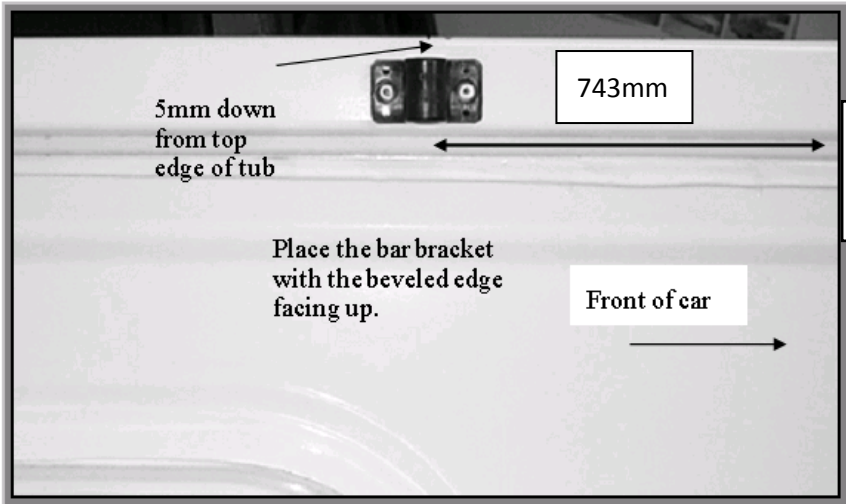

Figure 2: Placement of bar bracket
7. To fit the bar brackets, measure 743mm back from the inside front edge at the top of the tub and place them as shown in Figure 2. (5mm down from top edge of tub) Drill and rivet using two large rivets for each Bar Bracket. Install the support bar according to the supplied instructions.